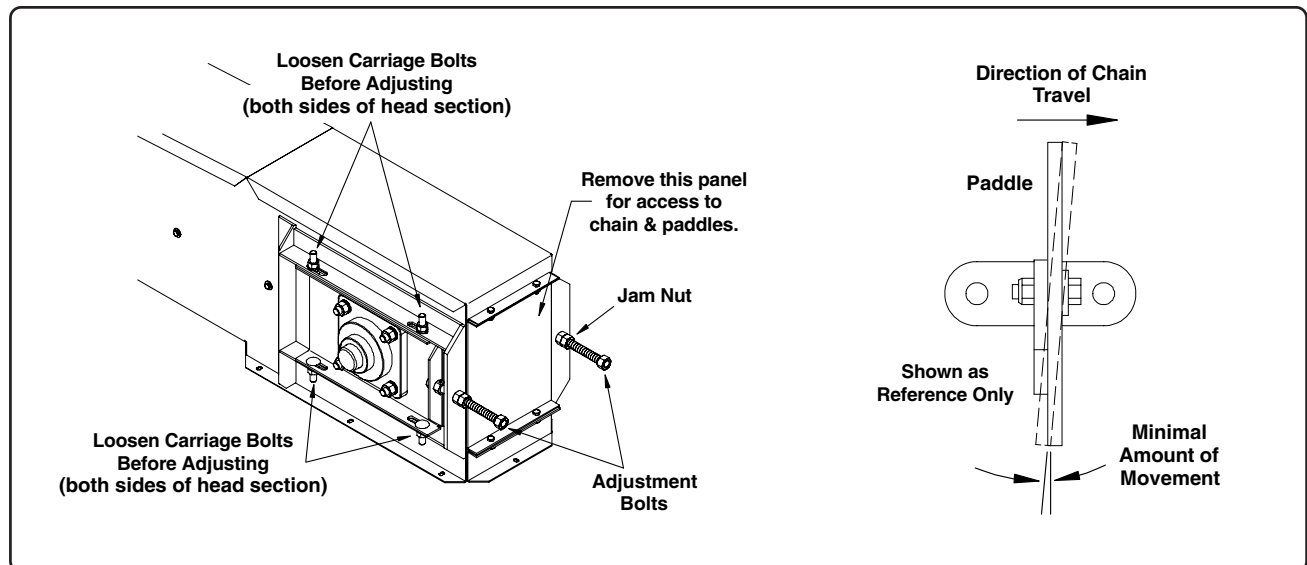

Fig. 24
4. Remove the access panel from the front of the head section (See Fig. 24 on Page 39). Route the chain and paddles down the bottom partition in the housing to the inlet hopper, around the hopper sprocket, and back up through the upper partition to the discharge end.